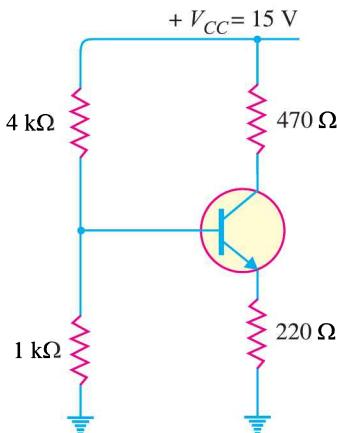

Fig. 9.50
7. In the transistor circuit shown in Fig. 9.50, find the operating point. Assume the transistor to be of silicon.  $I_C = 10.5mA$ ,  $V_{CE} = 7.75V$